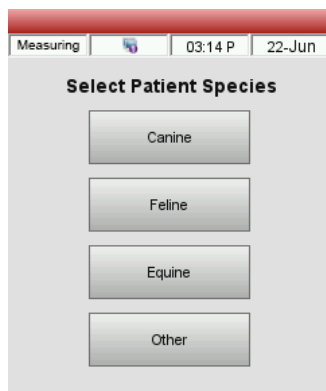

Figure 18. Measurement> Select Patient Species screen
2. Select the species (figure 18).